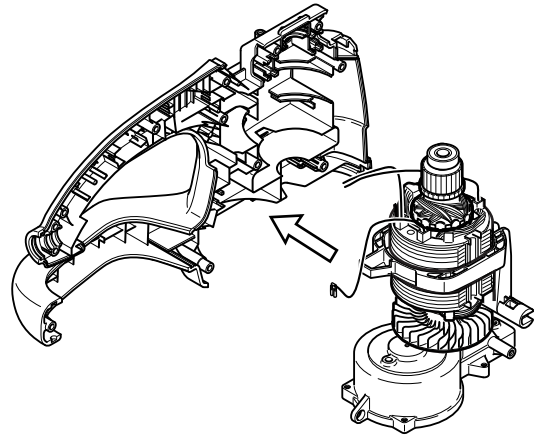

Fig. 30
3. Assemble the motor unit to housing as illustrated in Fig.30.